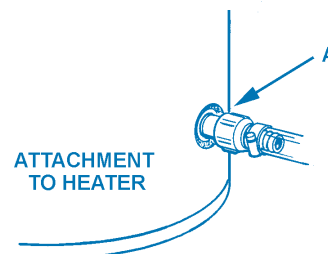

FIGURE 5
- (A) Install the long plastic male adapter insert fitting into the drain valve opening of heater after applying Teflon tape or paste to threads. Tighten firmly by hand and use wrench or adjustable pliers to check for secure connection. Do not over tighten to avoid damage to threads and fittings. (Figure 5)
- 11. Place loose hose clamp on one end of the 3' length of 3/4" plastic tube and push tubing over barbed section of the long plastic male adapter insert fitting at water heater drain valve opening. Tighten hose clamp to secure connection. (Figure 5)